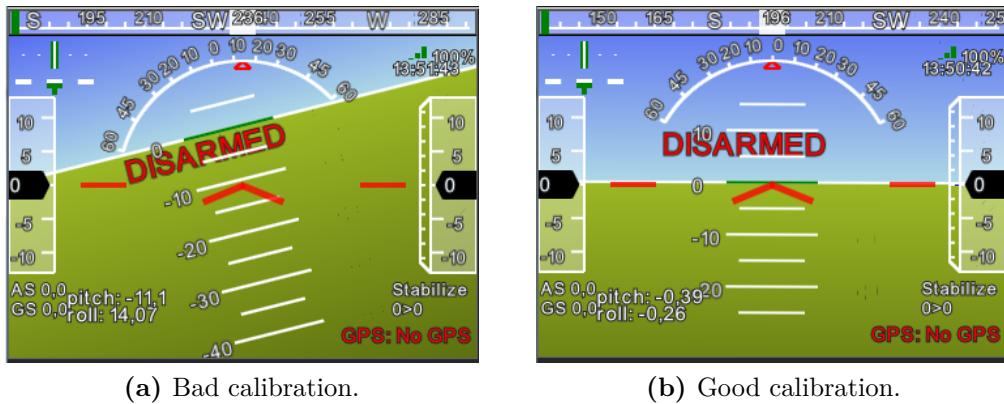

Figure 5.3: Examples of how the ground-sky frame of the MP can appear when the board is placed on a flat surface.
- Put the board on a flat surface, and check if the roll and pitch have close-to-zero values (see figure 5.3). If they do not, you should do the Quadrocopter level procedure.